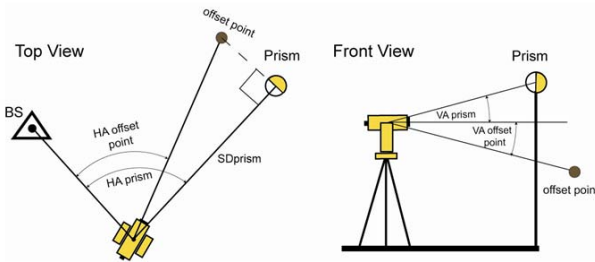

Figure A-4. Example of Horizontal/Vertical Angle Offset in Total Station or TopSURV/SSF
– *Vertical* and *Horz. Vertical*: These two types of TS measurements are created if the user selected Horizontal/Vertical Angle Offset in the Total Station or TopSURV/SSF. The *Horz. Vertical* measurement contains only angle (horizontal/vertical) measurements to the target (offset point), *Vertical* measurement contains horizontal/vertical angles and distance to the reflector (see Figure A-4). Both measurements (*Vertical* and *Horz. Vertical*) relate to one point. After clicking **Compute Coordinates**, Topcon Link calculates the coordinates of this point using both measurements